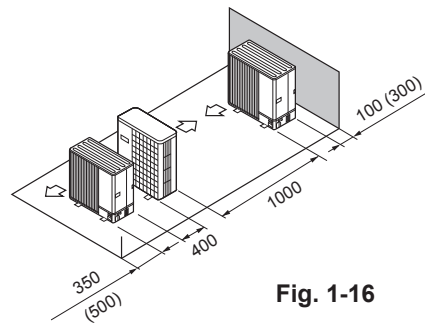

Fig. 1-16
- ⑤ Single parallel unit arrangement (Fig. 1-16)